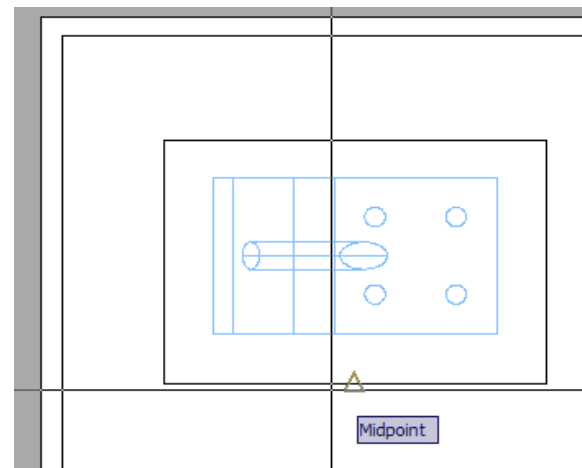

Figure Step 9A
Step 9 Enter the SOLVIEW command again but this time, create the front view by projecting orthographically from the top view. Doing it that way, the two views will be aligned. See Figure Step 9A and 9B.